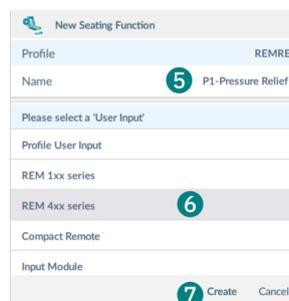

Figure 120: New Seating Function details
4. Click on the **New Seating Function** button  – *Figure 119-4*. The **New Seating Function** window is displayed (*Figure 120*).